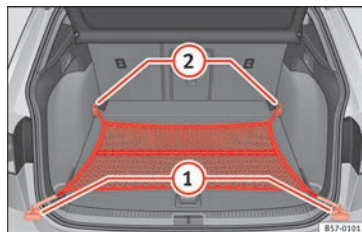

Fig. 156 In the luggage compartment: net bag hooked to the ground.
- As applicable, lift the front fastening rings » Fig. 156 ②.
- Secure the net hooks to the fastening rings ② » ⚠. The bag zip should be facing upwards.
- Secure the net hooks to the fastening rings ①.